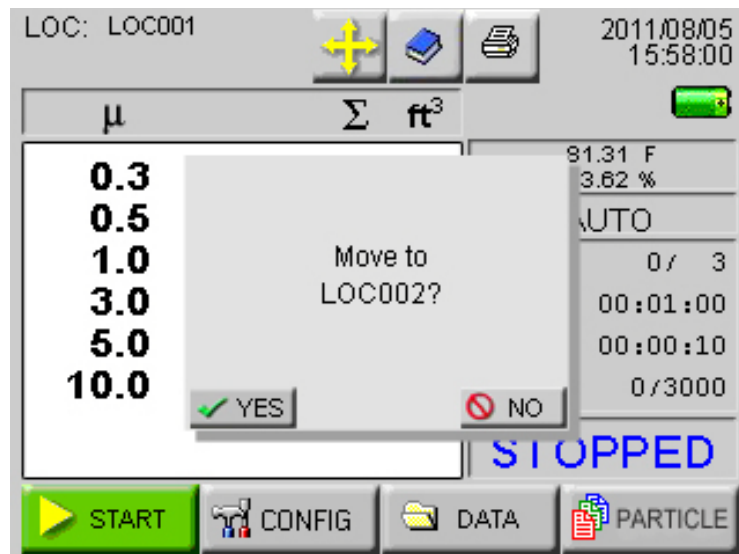

Figure 4-50 Auto Increment Prompt
- The user is prompted to move to the next location after the programmed number of cycle. See Figure 4-50.